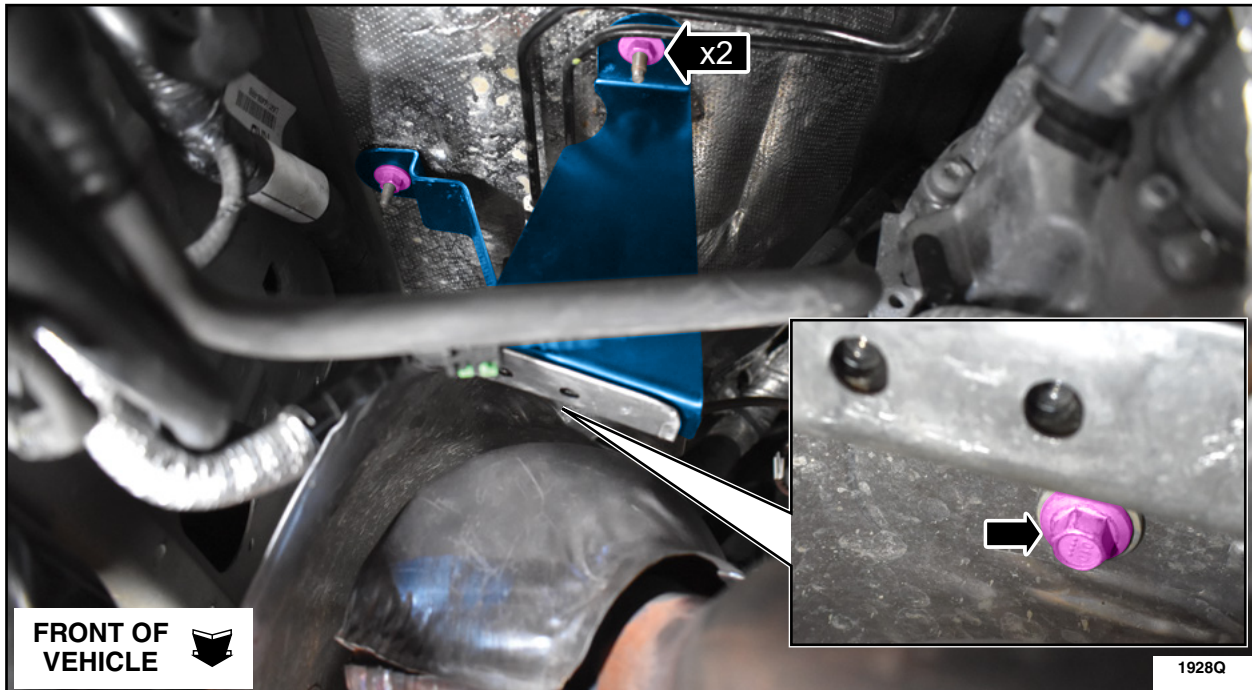

FIGURE 17
18. Remove the heat shield bracket retainers and the heat shield bracket. See Figure 17.